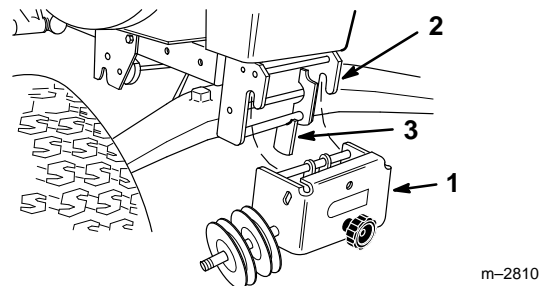

Figure 16
8. Open front hitch and remove pulley assembly (Fig. 16).